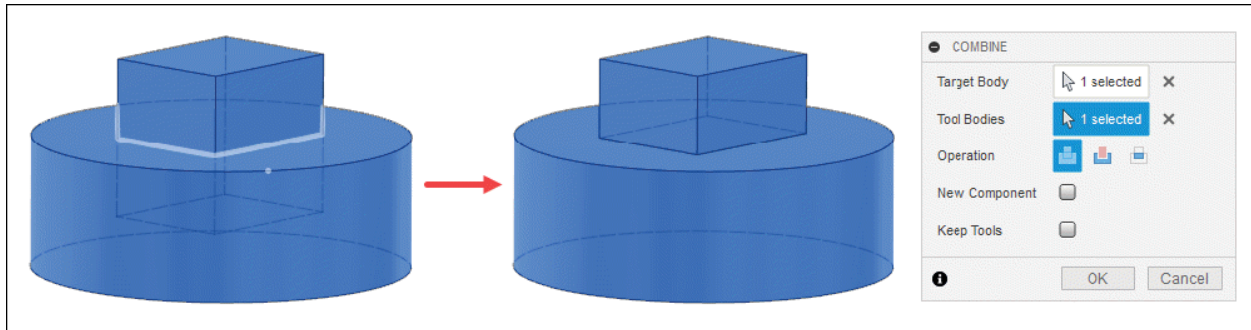

Figure-38. Preview of combine
- Click on other components to select in **Tool Bodies** section. The preview of combine will be displayed; refer to Figure-38.